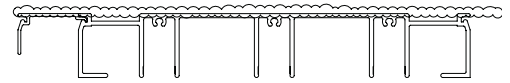

Figure 3
1. Seal under entire length of sill and all frame seams. Make sure to include where the frame sill and head meet the mainframe jambs. (See Figure 3)